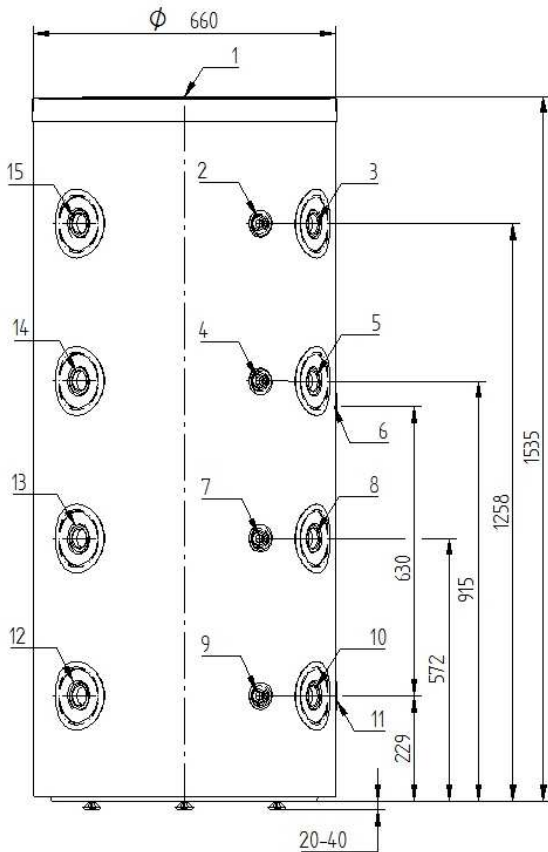

Figure 1
Buffer tanks are sold in standing forms, with volumes of 300, 500, 750 and 1000 litres, in "empty" (PT), "pipe coil" (PT_C) and "combined" (PT_CF) layouts. "Empty" buffer tanks (PT types) contain 9 pipe branches for connection of heat producing units and heat expenditure units and they contain 1/2" sensor pipe branches. Buffer tanks with pipe coil (PT_C types) contain a heat exchanger for direct connection of solar systems or systems with heat pump. In addition to features described above, combined tanks (PT...CF types) contain a flexible pipe of stainless steel to produce sanitary hot water. The most important external and connection sizes of the appliances are described in Table 1 and in Figures 1 and 2 below.